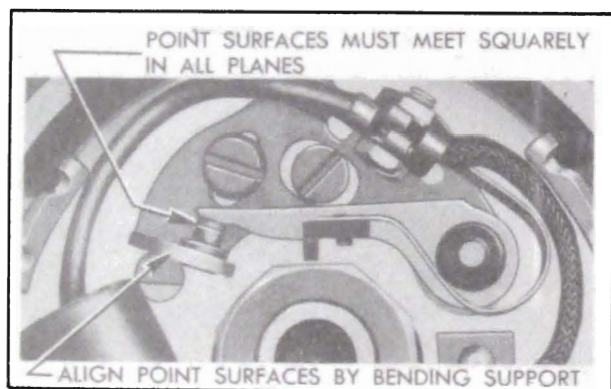

Figure 10-76—Contact Point Alignment
6. With points closed, inspect for square contact between mating surfaces of the two points. Carefully bend support, if necessary, to make points meet squarely. See figure 10-76. CAUTION: Do not bend the breaker arm as this may damage the rubbing block and loosen the pivot bushing in arm.